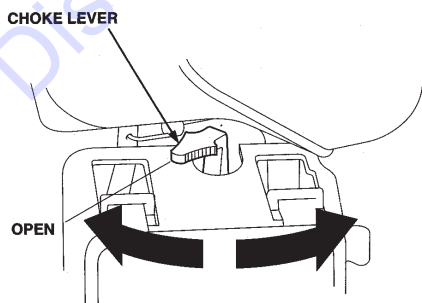

Figure 11. Engine Choke Lever (Open)
3. Place the **choke lever** (Figure 11) in the "OPEN" position if starting a **warm engine** or the **temperature is warm**.